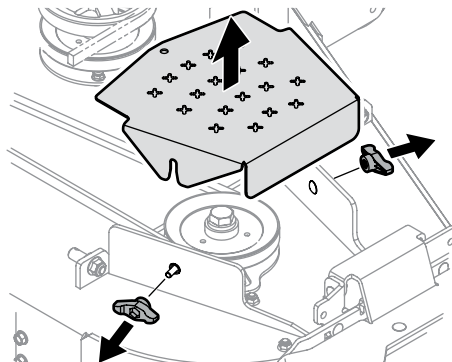

Figure 4-15
- Clean the top of the mower deck, under the spindle covers and belt area. See Figure 4-15.